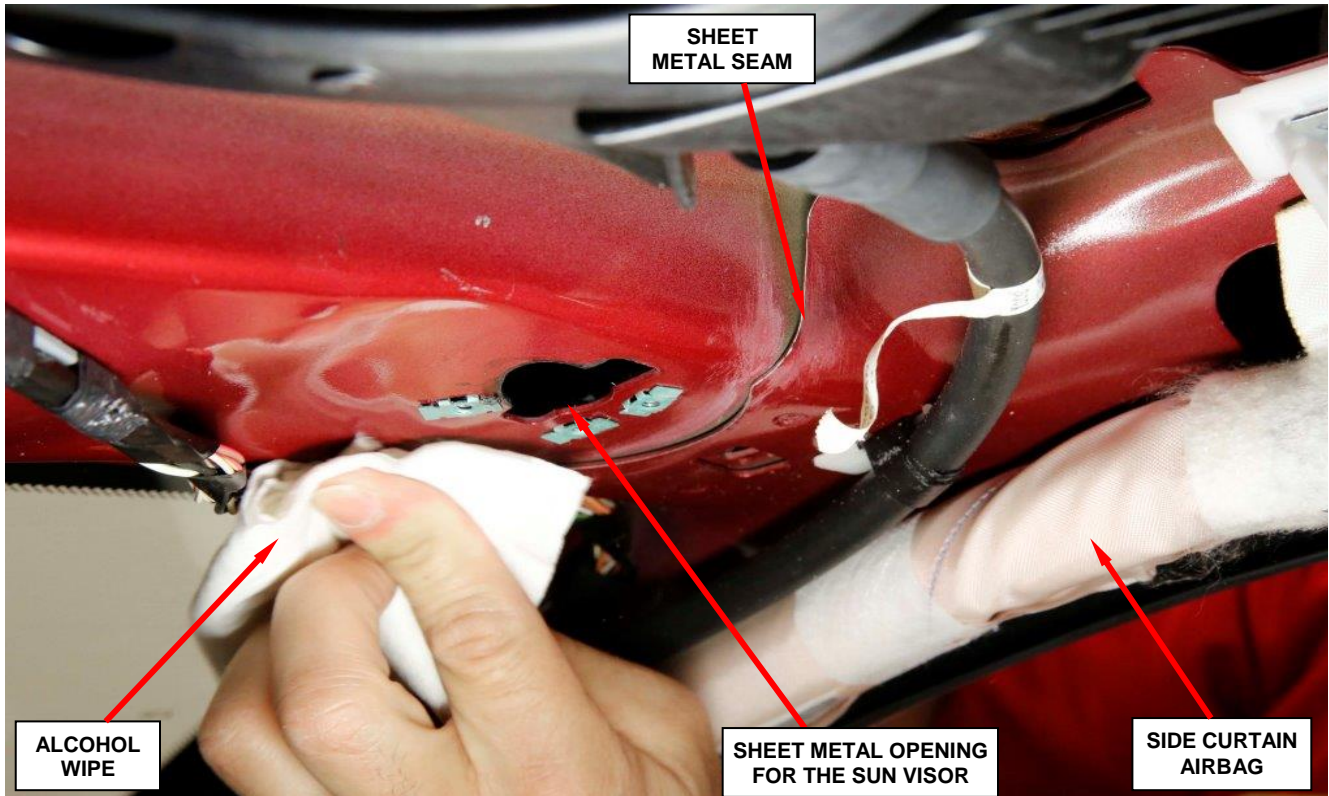

Figure 18 – Clean Seams with Alcohol Wipe (right side shown)
44. Clean the sheet metal edge with an alcohol wipe to remove any dust and/or debris (Figure 18).